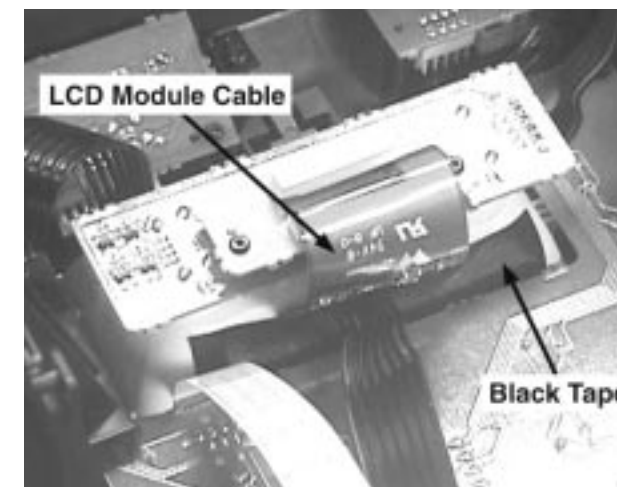

Figure 18
- 2) Care should be taken not to damage or tear the LCD Module Cable during repair (see Figure 18 & Figure 19). The LCD Module Cable may be damaged or tear as shown in Figure 20 if too much force is applied when removing the Black Tape during repair.